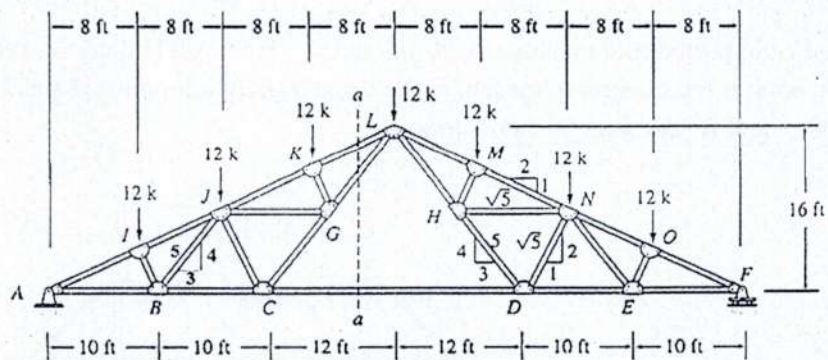

Figure: 9
6. (a) Determine the bar forces of AB, AI, BI, IJ, BC, BJ of the following truss shown in Fig 9.